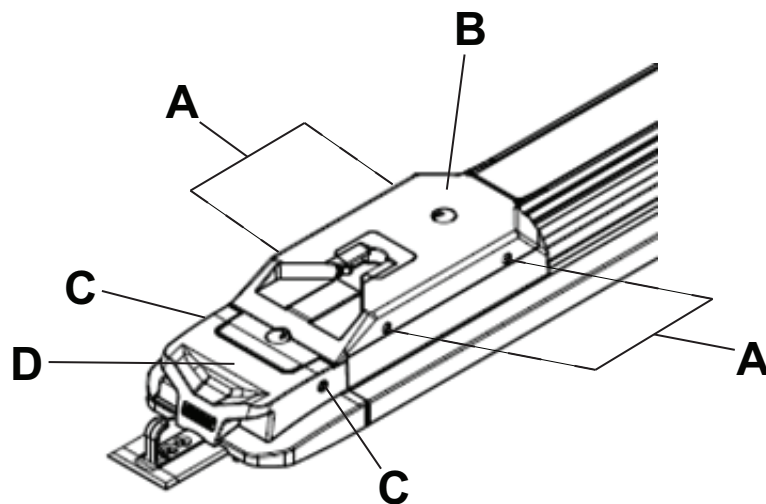

Figure 13 – Foot end cover assembly
9. Using a T27 Torx driver, remove the four socket head cap screws (A) that secure the foot end cover assembly (B) to the transfer (Figure 13). Save the screws.
10. Using a T27 Torx driver, remove the two button head cap screws (C) that secure the foot end cover assembly to the foot end nose assembly (D) (Figure 13). Save the screws.